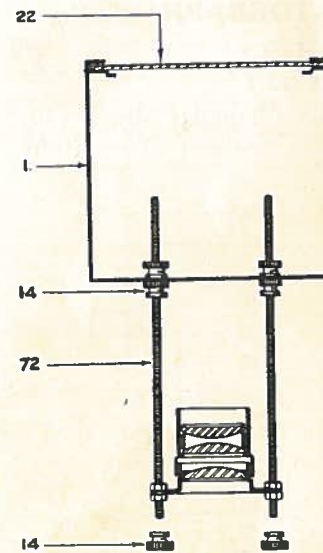

Fig. 7.
To complete the assembly secure this to an Optical Box (1) by means of a 5in. Screwed Rod (72) and the necessary nuts as illustrated in Fig. 7. Slide the Frosted Glass Plate (22) in the top of the Optical Box to complete the unit.